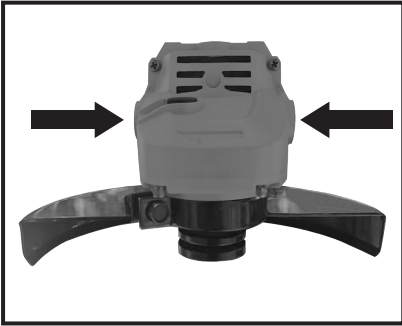

Fig 1
1. INSTALLING THE AUXILIARY HANDLE (see fig 1)
An auxiliary handle is supplied and can be fixed into either of the two positions on the gear case. If you are right-handed, fit the handle as shown in fig 1. If you are left-handed, fit the handle the other way around. When using a cutting disc, you can screw the handle into the position on top of the gear case.